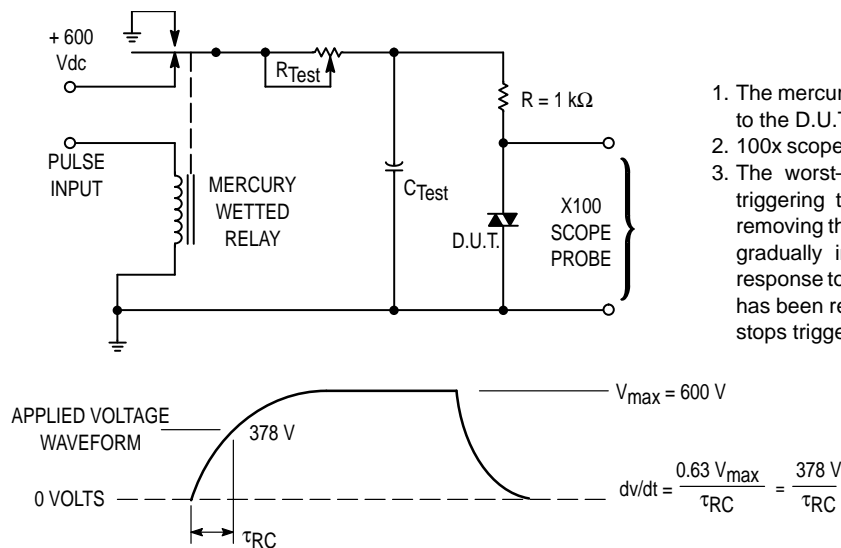

Figure 9. Static dv/dt Test Circuit
3. This is static dv/dt . See Figure 9 for test circuit. Commutating dv/dt is a function of the load-driving thyristor(s) only.